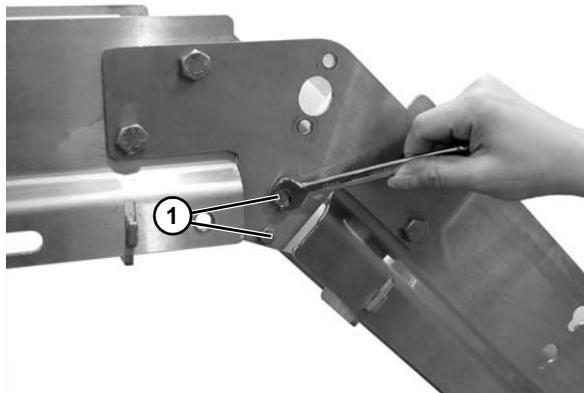
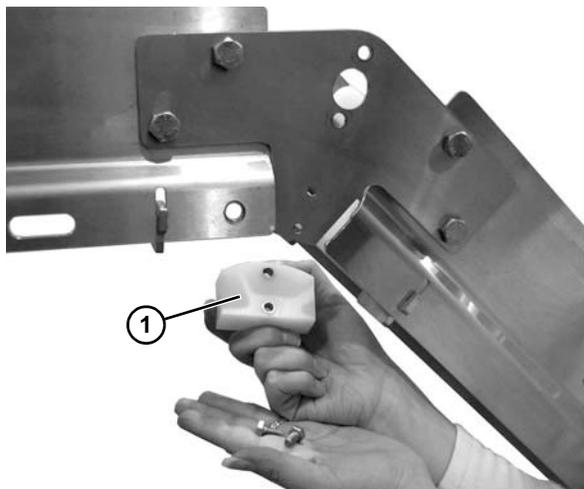

Figure 73
Figure 74
- Remove two cap screws (**Figure 73, item 1**) and inner belt return guide (**Figure 74, item 1**). Repeat on opposite side of the conveyor.